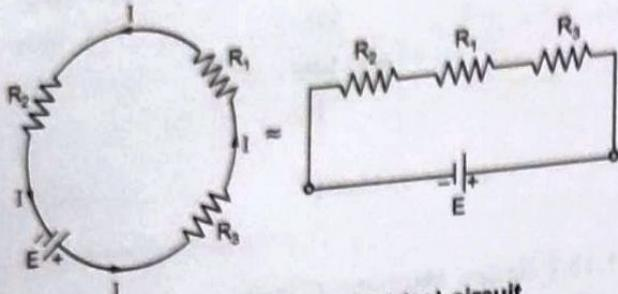

Fig. 1.13.5 Equivalent electrical circuit
- Its analogous electric circuit can be shown as in the Fig. 1.13.5.